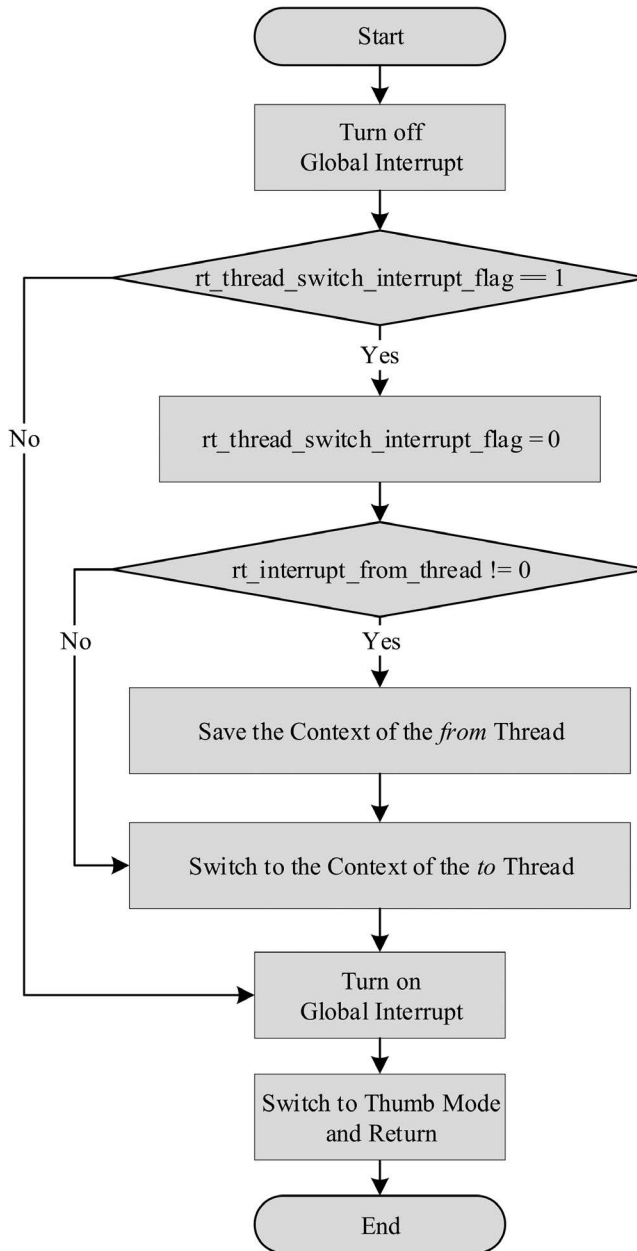

FIGURE 9.8 Function `rt_hw_context_switch_interrupt()` implementation process.
2. Restore the CPU context prior to the interrupt. If thread switching did not happen during the interrupt processing, the CPU context of the *from* thread is restored. If thread switching did happen, the CPU context of the *to* thread is restored. This part of the implementation is related to the CPU architecture. Different CPU architectures are implemented differently. The implementation process in the Cortex-M architecture is shown in Figure 9.8.